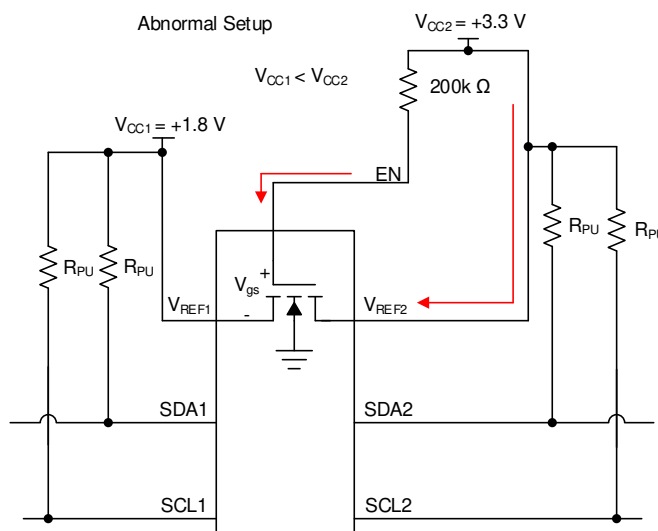

Figure 7-2. Abnormal Setup
(1) Guaranteed by simulation, not tested in production
(2) Translating Down: the high-voltage side driving toward the low-voltage side. See Fig 7.2 *Direct Propagation Measurement*
(2) Translating up: the low-voltage side driving toward the high-voltage side. See Fig 7.2 *Direct Propagation Measurement*
current such as in Figure 7-2. This effectively looks like a low impedance path for current to travel through and potentially break the pass FET if the current flowing through the pass FET is larger than the absolute maximum continuous channel current specified in the Absolute Maximum Ratings. The continuous channel current is larger with a higher voltage difference between V_{CC1} and V_{CC2} .
Figure 7-2 shows an improper set up. If V_{CC2} is larger than V_{CC1} but less than V_{th} , the impedance between V_{CC1} and V_{CC2} is high resulting in a low drain to source current, which does not cause damage to the device. Concern arises when V_{CC2} becomes larger than V_{CC1} by V_{th} . During this event, the NFET turns on and begin to conduct current. This current is dependent on the gate to source voltage and drain to source voltage.